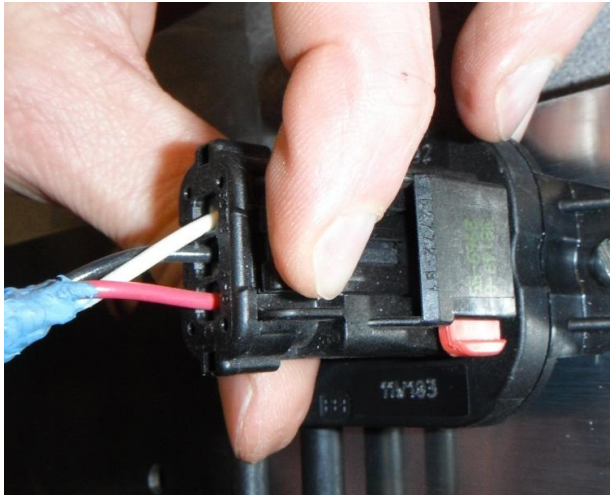
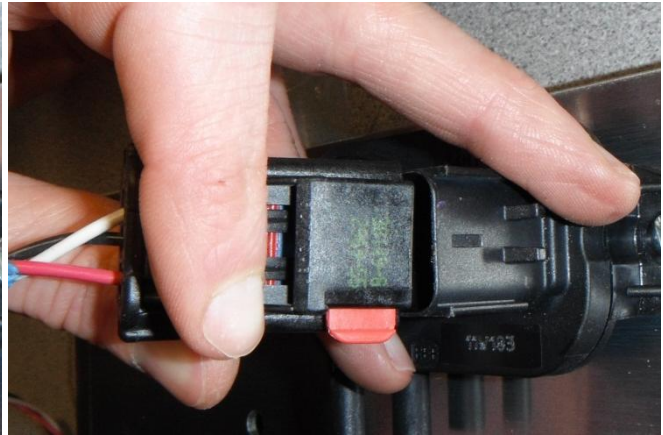

Figure14: DPT Button Release
Figure15: DPT Disconnected
- c. *Depress the button and push away from the ECU. This will remove the DPT connection and allow min gap regeneration. Drape the DPT connector over the ECU mount plate to reconnect later. See Figure14 and Figure15 for details.*